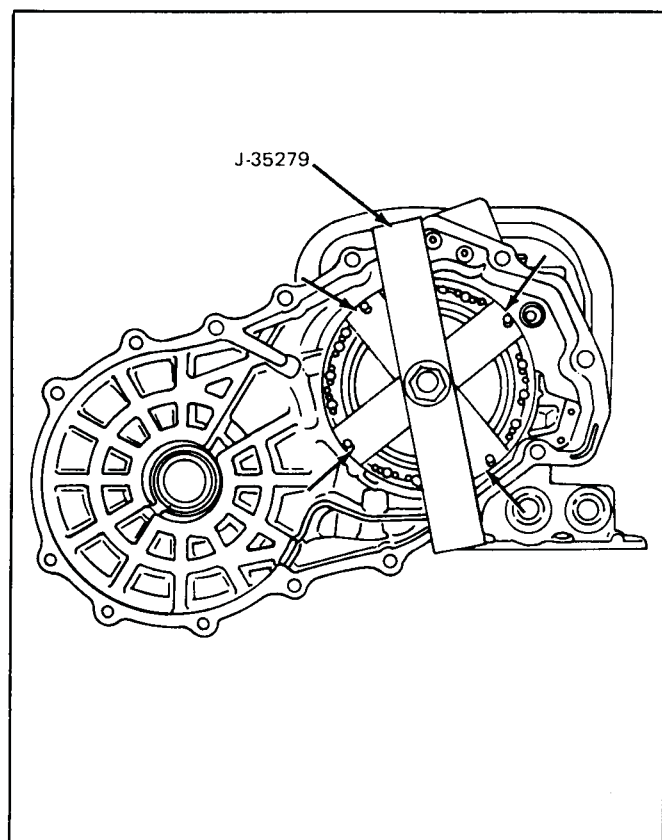

Figure 7A-29 Low/Reverse Piston Removal
25. Install J-35279 as shown in Figure 7A-28. Tighten the bolt to compress the clutch return springs. Remove the snap ring from the clutch return spring retainer. Remove J-35279, spring retainer and springs from the case.